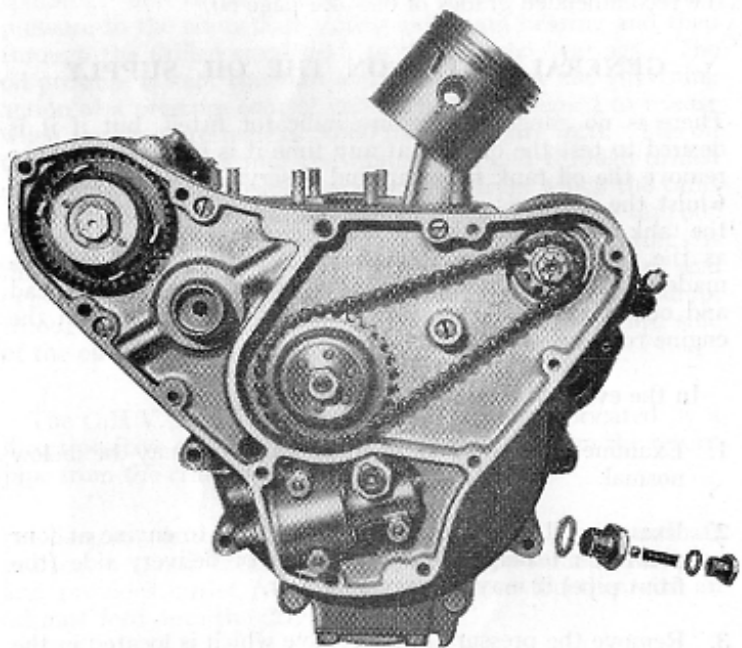

Fig. 5.
3. Remove the pressure control valve which is located in the hexagon plug in front of the lower portion of the timing case. Thoroughly clean and ensure that the valve is free to operate and is not obstructed in any way by the presence of small particles of foreign matter. See Fig. 5.
The idler gear, complete with shaft, can next be pulled away from the bushed crankcase. See Figs. 5 and 6.